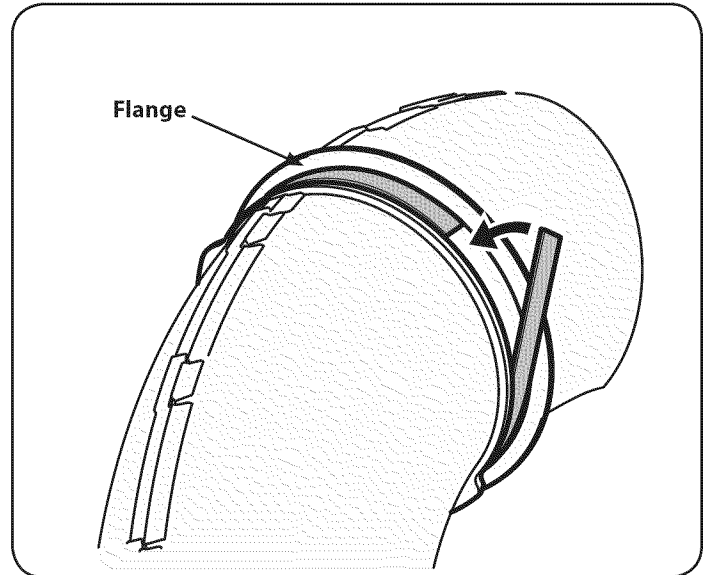

Figure 22
1. Peel the backing off of the self-adhesive foam strip (721-04388) that has been included within your Contents of Carton. Apply it to the upper chute, flush against the flange as shown in Figure 22.